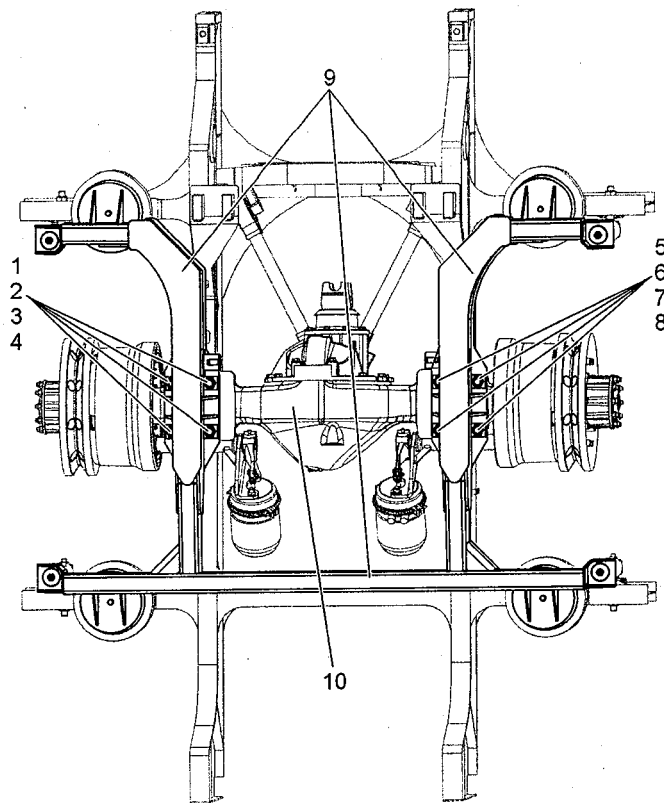

Figure 1-1 Spacer Location (Underside View)
2. Thoroughly clean the area around all 8 spacers. Refer to **Figure 1-1**.